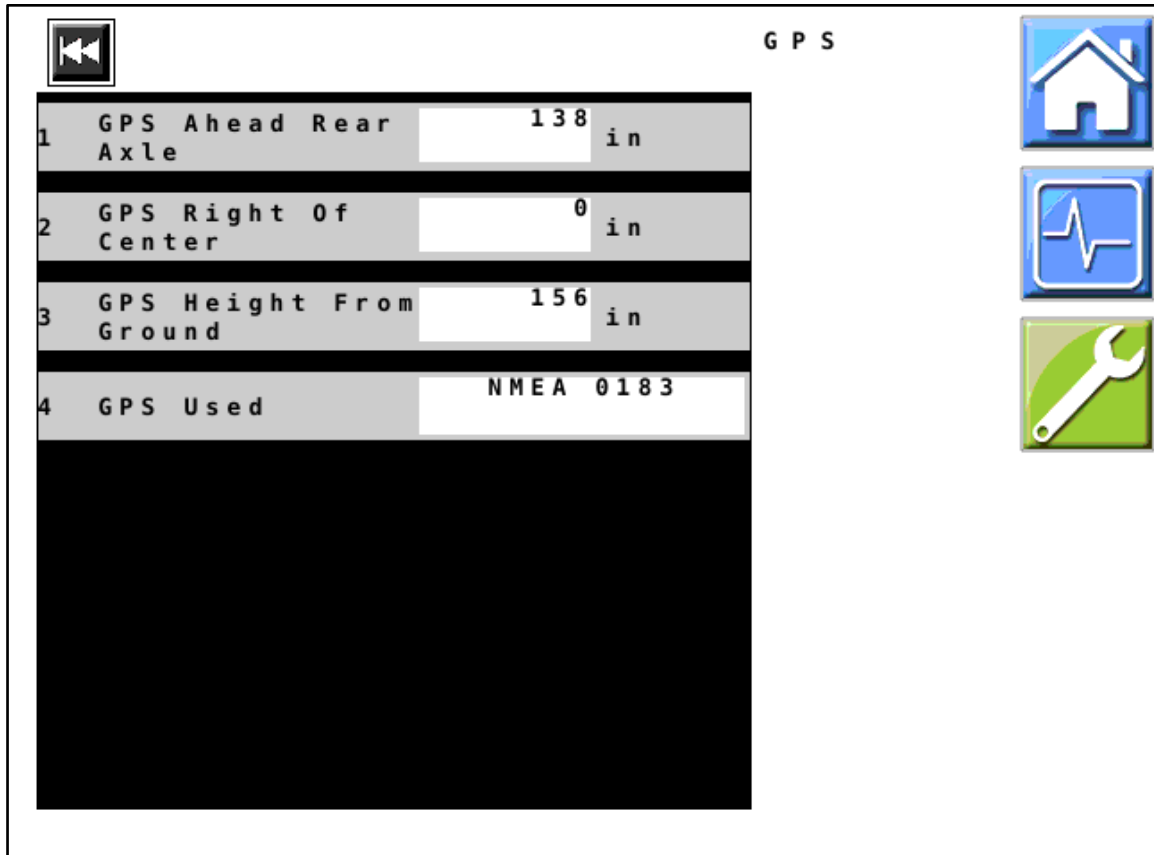

Figure 22 — GPS
39. *Figure 22*: Select the type of GPS from the list of available options. Not all of the options listed here may show on your system. Only the types available for your system will show on your list.